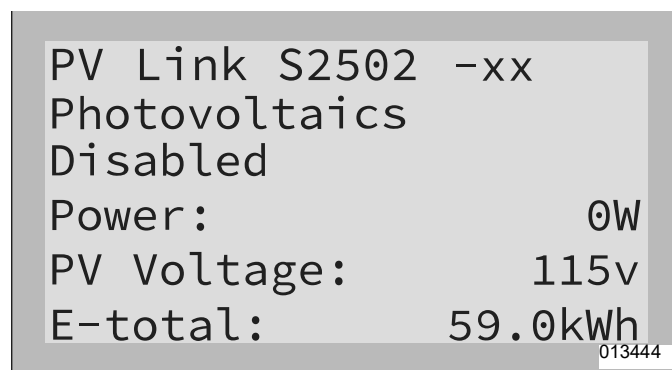
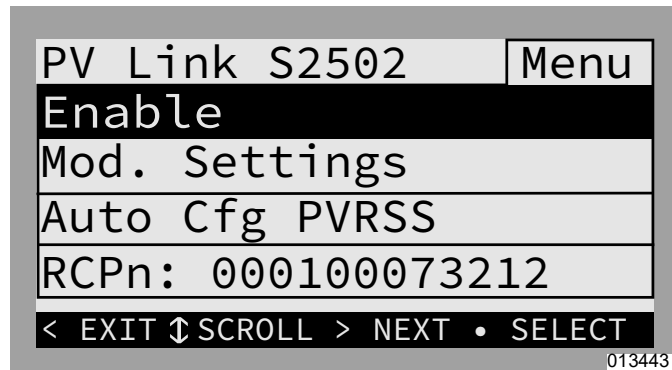
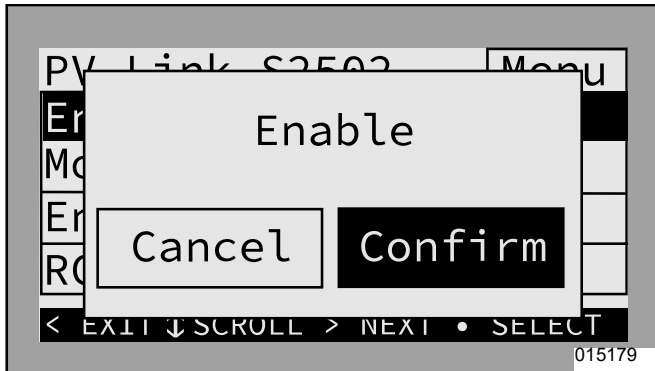

Figure 7-10. Enabling REbus Devices (1 of 3)
Figure 7-11. Enabling REbus Devices (2 of 3)
Figure 7-12. Enabling REbus Devices (3 of 3)
10. Once the inverter is enabled and in state, “grid connected,” scroll right and enable each PV Link and PWRcell Battery, repeating the process just performed for the inverter. See Figure 7-10, Figure 7-11, and Figure 7-12. Also see Configure Rebus Devices and Enable REbus Devices for more information.